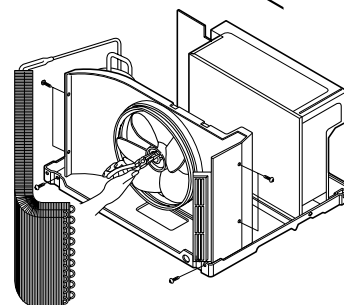

FIG. 31
6. Remove the fan. (See Fig. 31)